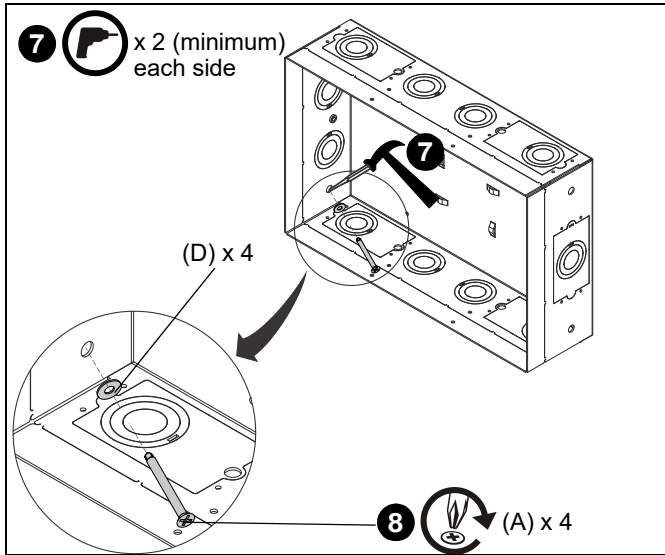

Figure 8
8. Install PAC525/526 to studs using four 1/4 x 2-1/2" Phillips flat head screws (A) and four 3/8" flat washers (D) through PAC525/526 and pilot holes. (See Figure 8)